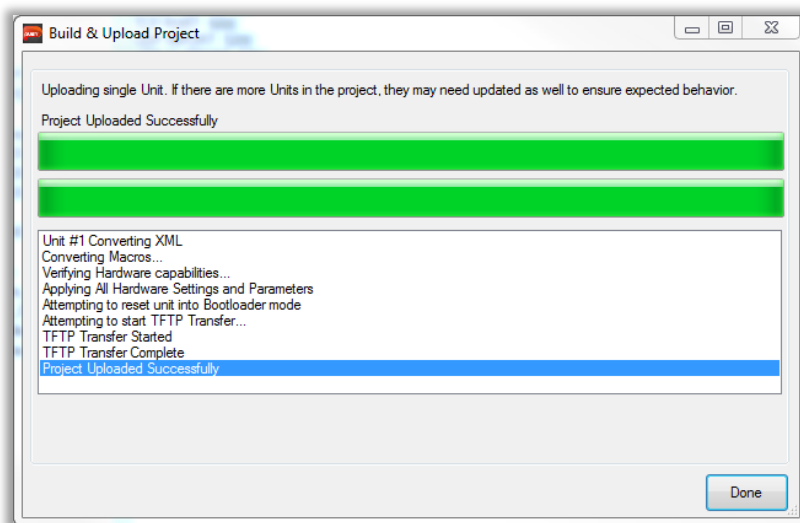

Figure 13 - Successful upload of a project to a PC4
- The upload PC4 window will open, the upload process is finished if the window text indicates 'Project Uploaded Successfully' *Refer to Figure 13*